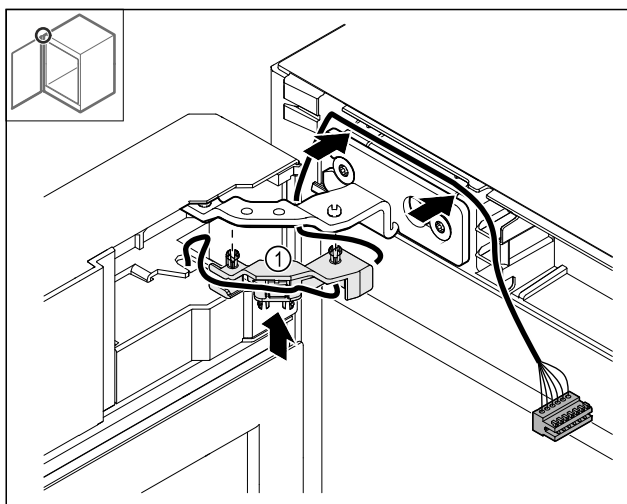

Fig. 49
- Push the cable holder Fig. 49 (1) into the hinge.